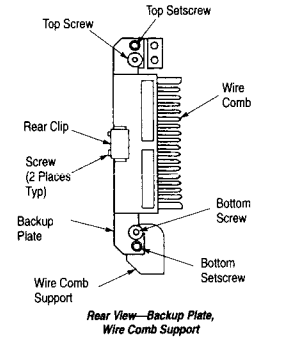

Figure 9
2. Loosen (approximately one turn) the screws that secure the backup plates (see Figure 9).
2. If misalignment of the wires dictates comb adjustment, proceed as follows: loosen the screws securing the rear clip (see Figure 9) and raise the wire comb support to the vertical position. While looking into the side of the tool, align the comb with the shear plate and tighten the rear clip screws.